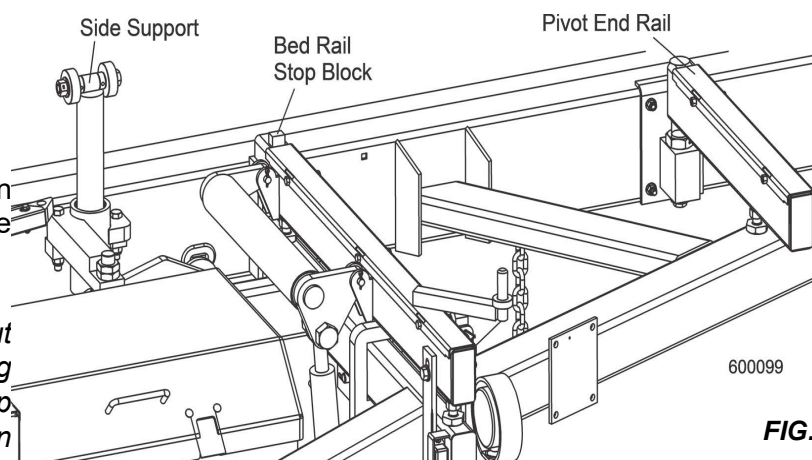

FIG. 3-4
- Raise the side supports to prevent a log from falling off the side of the mill when loaded. See FIG. 3-4.